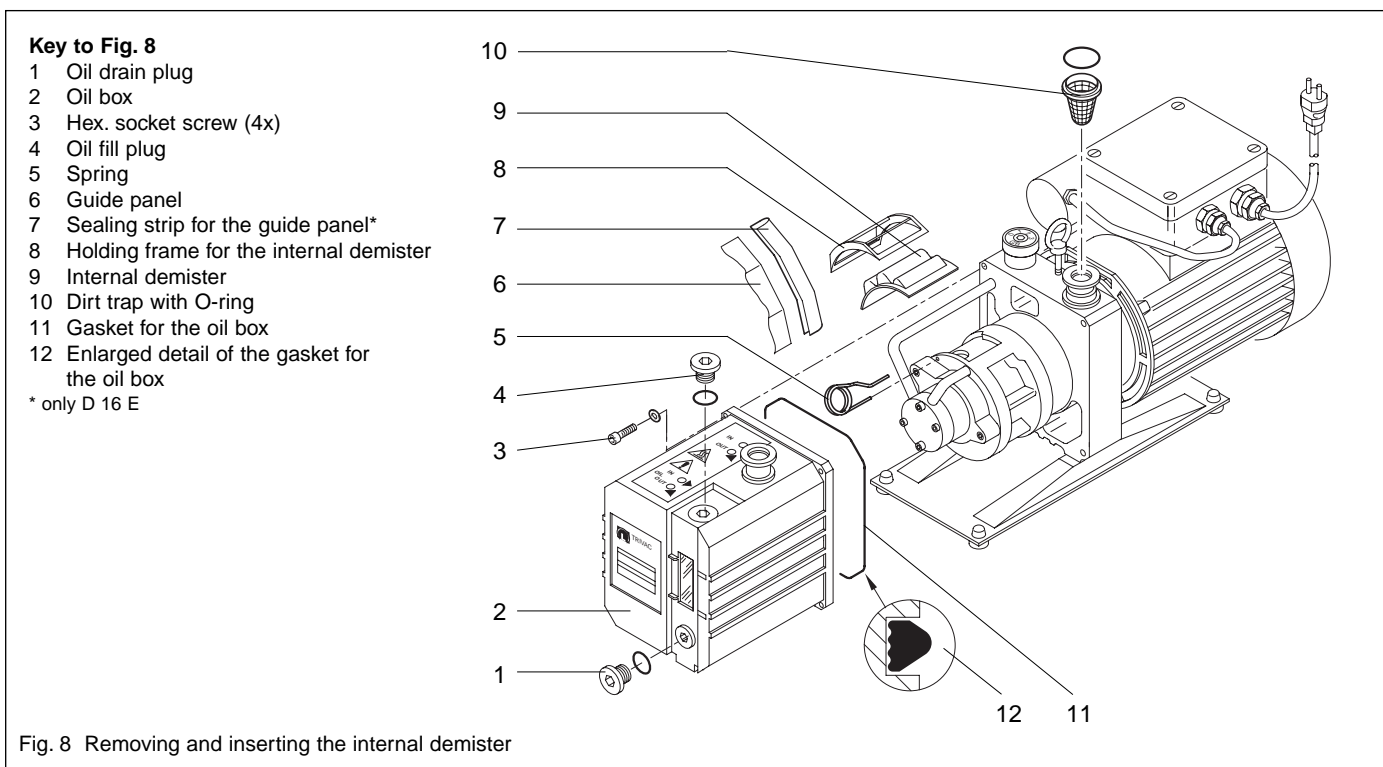

Fig. 8 Removing and inserting the internal demister
**Caution** Make sure to fit the gasket for the oil box (8/11) with the flat side in the groove, see item 12 in Fig. 8.